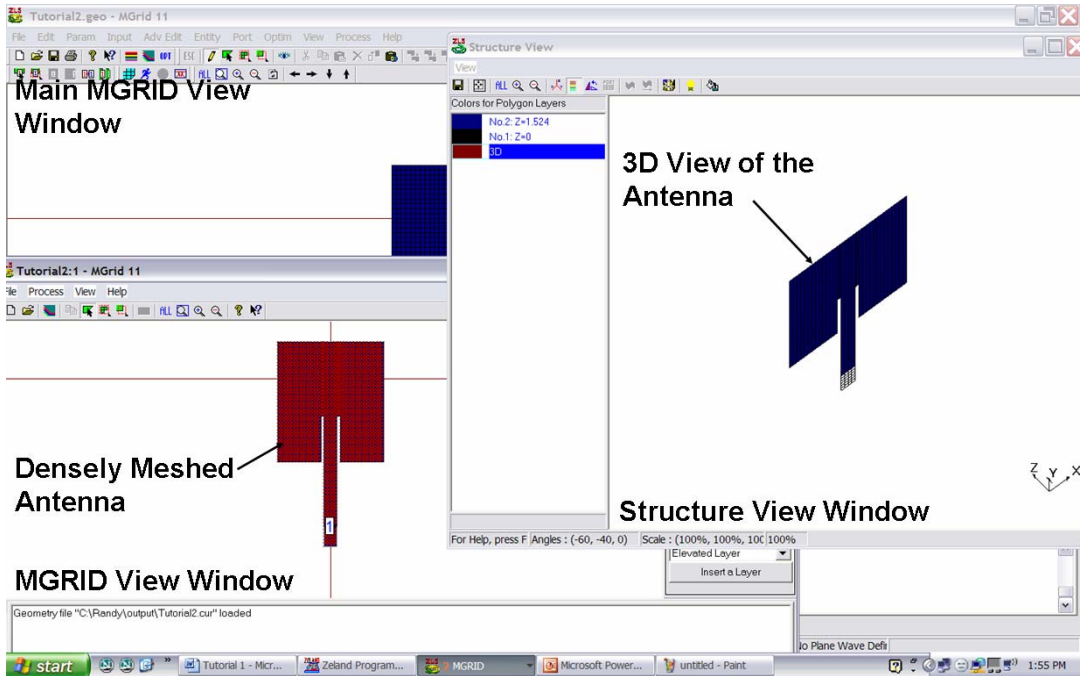

Figure 25.
- 29) After the simulation is complete, IE3D invokes MODUA to display the S-parameters of the structure. Note that there is only one frequency point so no curve is depicted in MODUA. In this case, IE3D also invokes a secondary MGRID view window, which the meshed antenna structure is shown as a 3D view window in which a three dimensional version of the structure is shown. In these two windows, you can examine the current distribution of the structure (see Figure 25).